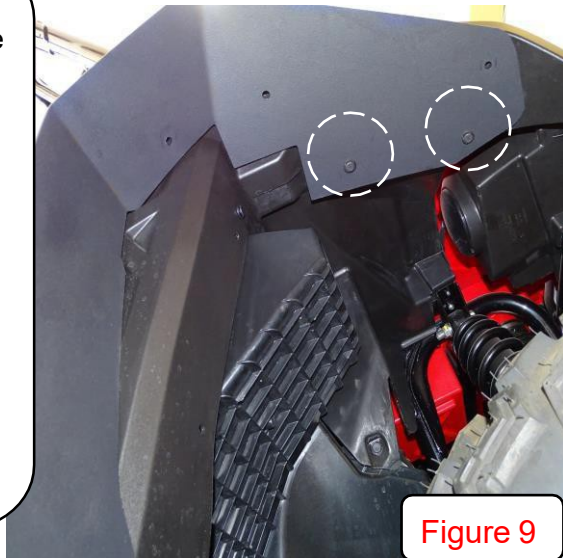

Figure 9
1) Remove the plastic rivets shown in Figure 9, place the fender flare against the factory fender, and re-insert the rivets.